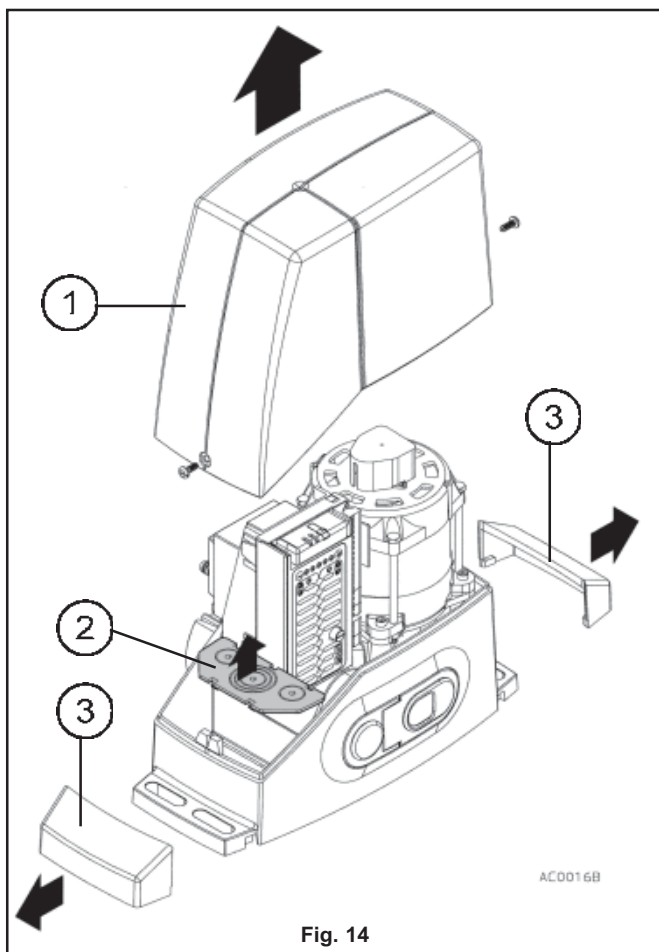

Fig. 14
- a) Remove the operator lid (1 fig. 14) and the cable gland hatch (2 fig. 14) and slide off the clamping feet covers. (3 fig. 14).